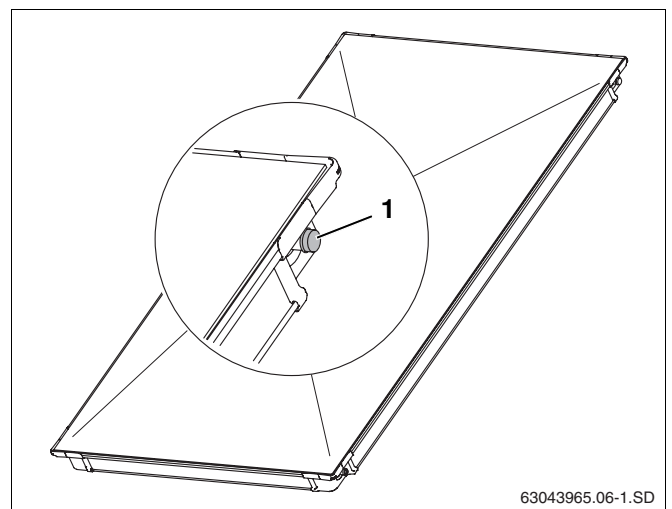

Fig. 6 Plastic caps on collector connections
- Do not remove the plastic caps (Fig. 6, **Item 1**) until immediately prior to installation.